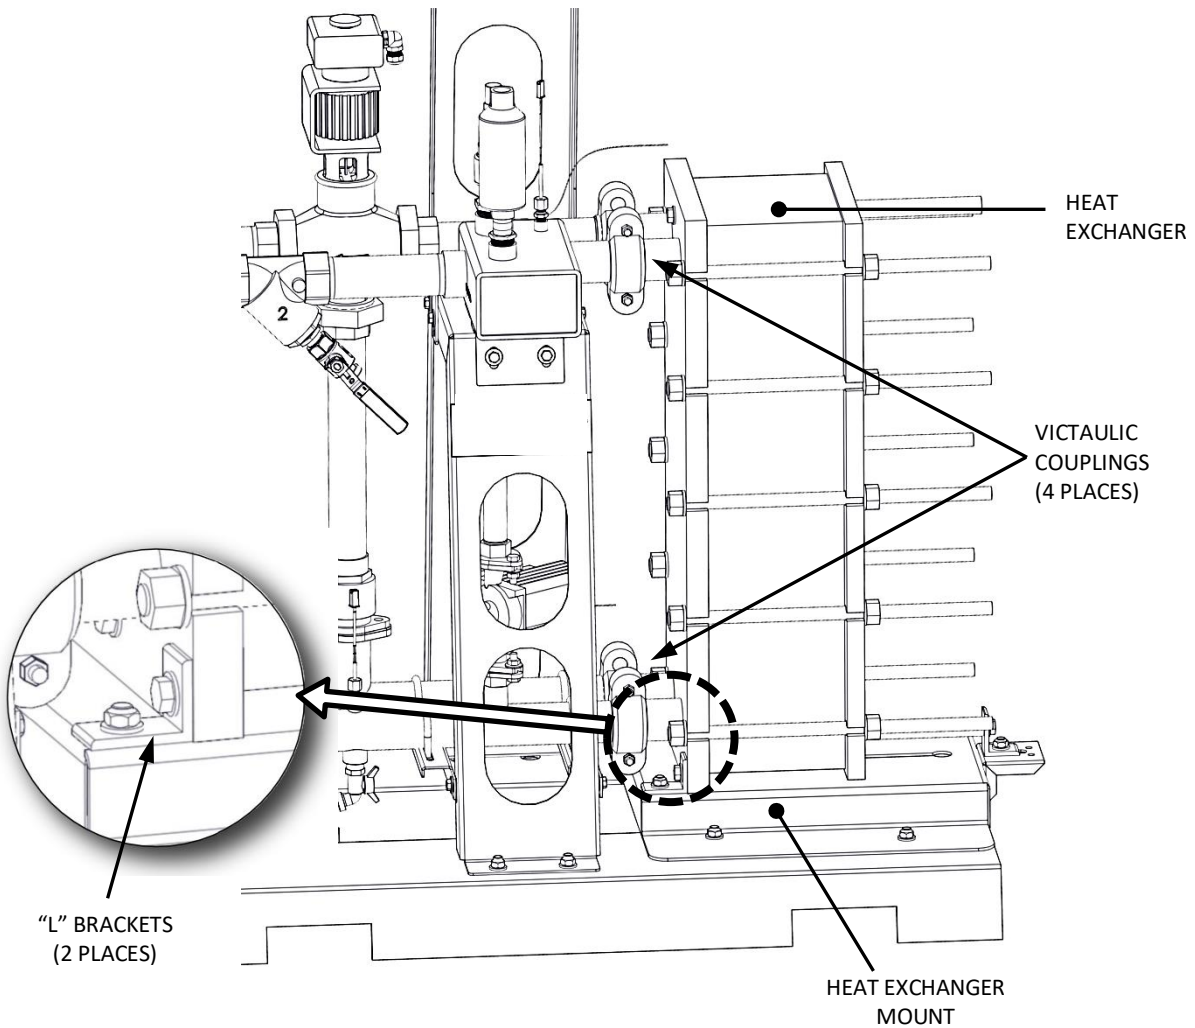

Figure 8-18. Domestic Water Side - Double-Wall Partial View
10. If the unit is a model SPDW113, remove the U-bolt securing the heat exchanger support bar (see section 8.9 and Figure 8-18). If the unit is a model SPDW61, remove the U-bolt and "L" bracket at the rear of the heat exchanger mount to permit the pressure plate to be moved.
7. Next, remove the two (2) bolts securing the front "L" brackets on the heat exchanger to the heat exchanger mount (Figure 8-18).